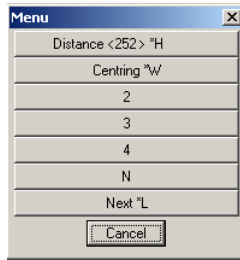

Fig. 1.4. Example of shortcut menu
- Open shortcut menu and select option (press “Space” on the keyboard) see. fig. 1.4.